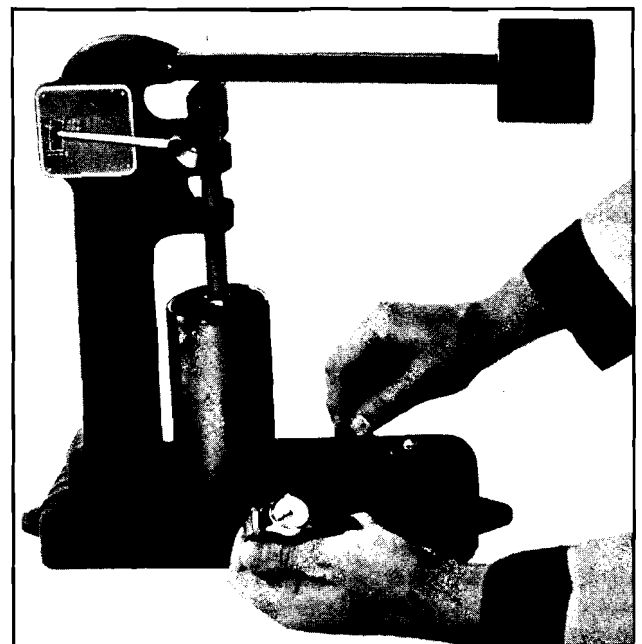

Fig. 6-86 Testing Leak-Down Rate
After all lifters have been assembled, the leak-down rate must be checked before they are installed in the engine. Valve lifter leak-down tester J 5790 (Fig. 6-86) is designed to test leak-down rate of lifters to determine whether or not they are within specified limits. As with previous service operations concerned with lifters, cleanliness is important. The tester cup and ram should be thoroughly cleaned, and testing should be done in an area free of dust and dirt. The testing procedure is described in the following steps:
5. Raise weight arm to allow plunger spring to expand fully; lower arm onto ram and commence turning crank slowly (1 revolution every 2 seconds). Time indicator travel from lower line (first line above set line) to line marked .125 or 1/8", while still rotating cup with crank (Fig. 6-86). Lifter is satisfactory if rate is between 20 and 90 seconds.